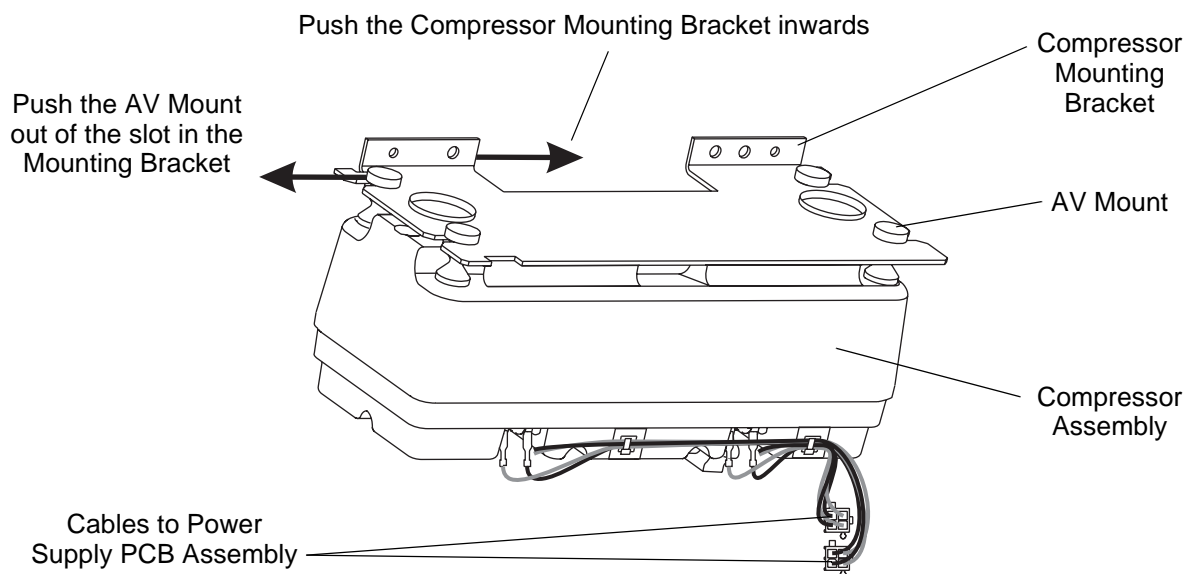

Figure 60 - Removing the AV Mounts from the Mounting Bracket
- 38.2 Lay the compressor assembly (Fig 59, Item 10) and mounting bracket (Fig 59, Item 20) down with the mounting bracket on top (Refer to Figure 60).
- 38.4 The compressor assembly is still attached to the mounting bracket via the four anti-vibration (AV) mounts (Fig 59, Item 60). Separate the compressor assembly from the mounting bracket, as follows (Refer to Figure 60):
- 39.1 Lay the compressor assembly (Fig 59, Item 10) down with the AV mounts (Fig 59, Item 60) on top, and the two cables to the power supply PCB assembly at the front (Refer to Figure 60).
- 39.2 Lay the mounting bracket (Fig 59, Item 20) on top of the compressor assembly, with the angled part of the mounting bracket on top and at the back of the compressor assembly (Refer to Figure 60).
- 39.3 At one end of the compressor assembly, carefully push the grooved part of the two AV mounts into the slots in the mounting bracket (Refer to Figure 60).
- 39.4 At the other end of the compressor assembly, do the following (Refer to Figure 60):